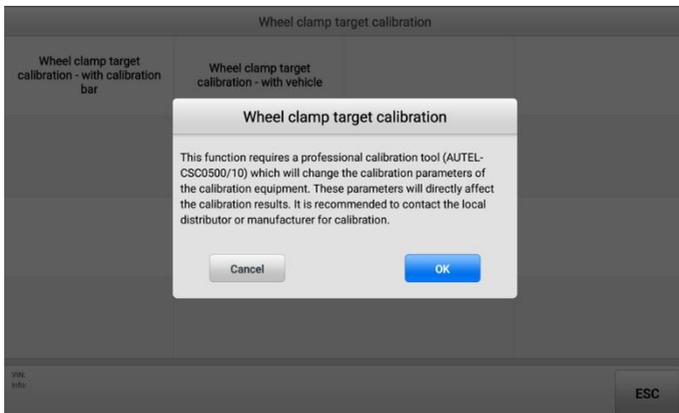

Figure 5-19 Select Calibration Method
4. Select **Wheel clamp target calibration — with vehicle** from the right of the screen. See Figure 5-19 Select Calibration Method.